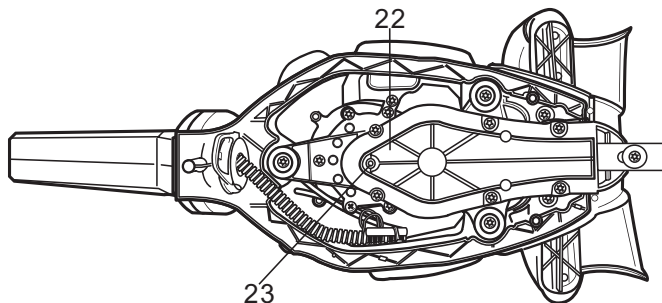

Fig. 30
- > Add grease through the lubricator (23) with an lubricating gun until the grease comes out between the gear box (22) and the cutting device (1) (Fig. 30).